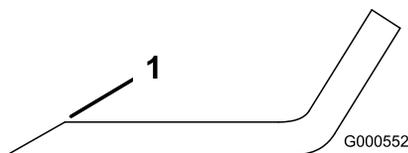

Figure 100
Note: If the blade is not balanced, file some metal off the end of the sail area only (Figure 100).
1. Use a file to sharpen the cutting edge at both ends of the blade (Figure 100).